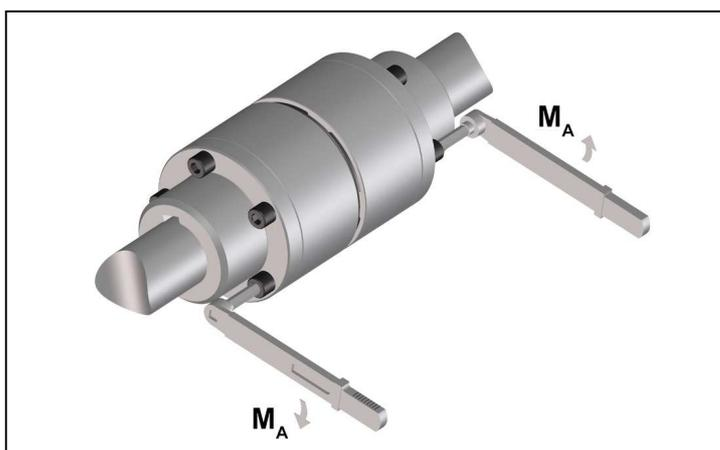

Fig. 6
- Tighten up the bush screw fitting with the tightening torque  $M_A$  as stipulated in table 2 (Figure 6).